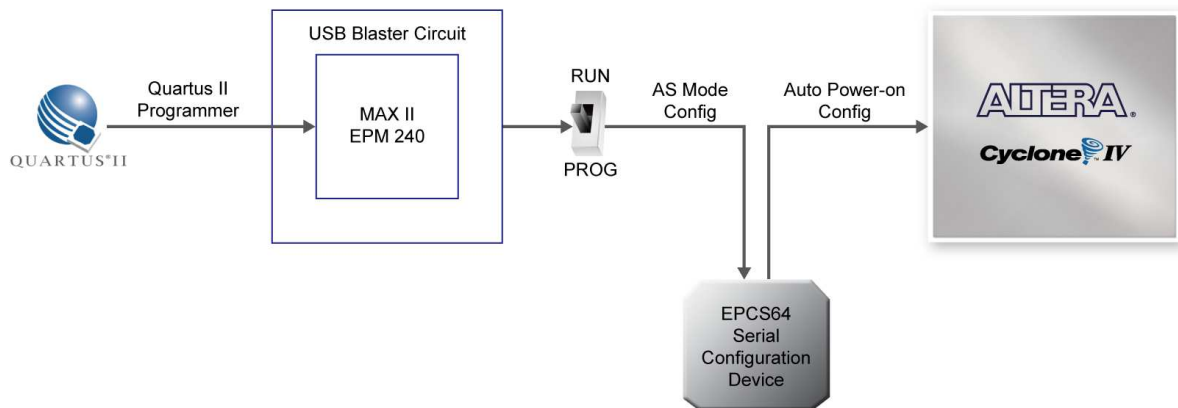

Figure 4-5 The AS configuration scheme
Figure 4-5 illustrates the AS configuration setup. To download a configuration bit stream into the EPCS64 serial configuration device, perform the following steps:
- **Connect the supplied USB cable to the USB Blaster port on the DE2-115 board (See Figure 4-5)**